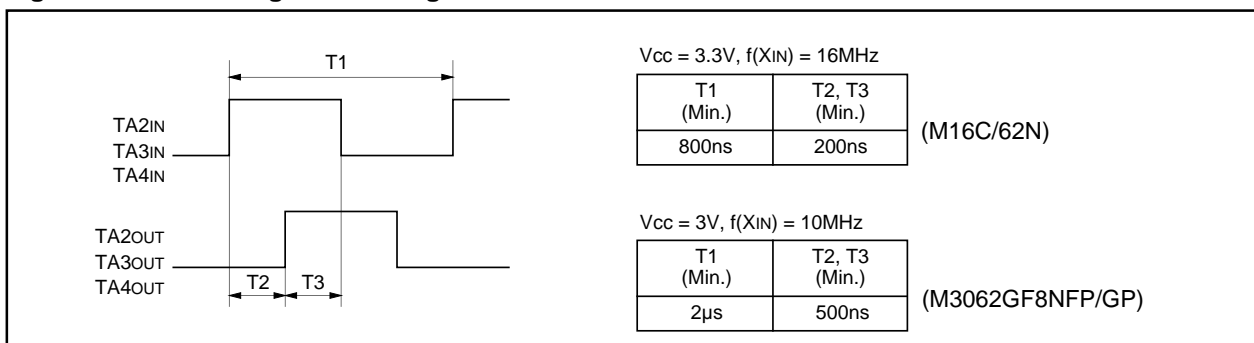

Figure 1.3.3. Standard of 2-phase pulses
- Please note the standards for the differences between the 2 pulses used in the 2-phase pulse signals input signals to the TAI_{IN} pin and TAI_{OUT} pin (i = 2, 3, 4), as shown in Figure 1.3.3.